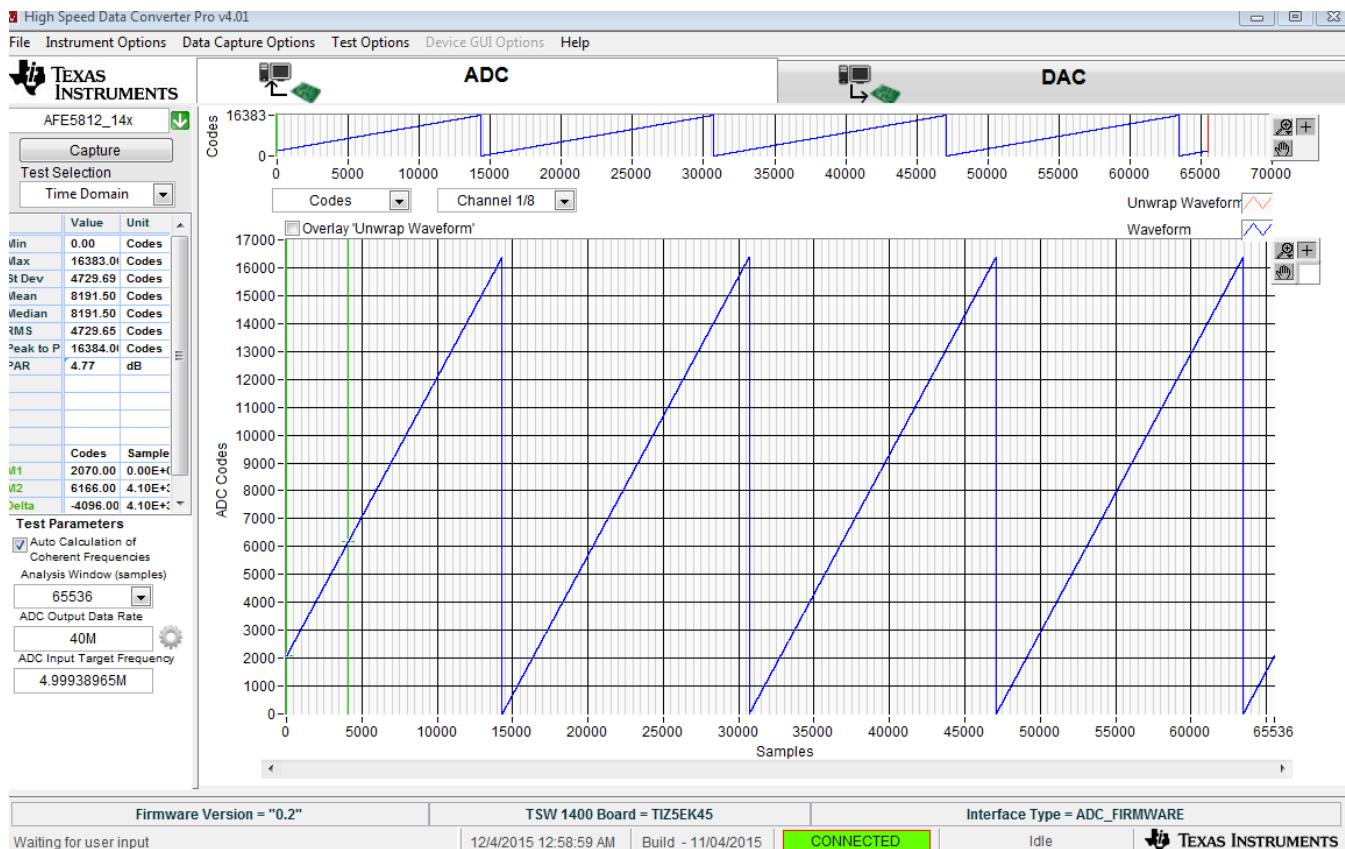

Figure 8. Ramp Waveform Output
4. Press the Capture button on the HSDCPro. This displays a ramping waveform on the HSDCPro display area as shown in Figure 8. This is validation that the TSW1400 is receiving data correctly from the AFE EVM.
6. If each channel has the output as shown in Figure 8, proceed with the next step; otherwise, contact the TI FAE to troubleshoot the problem.